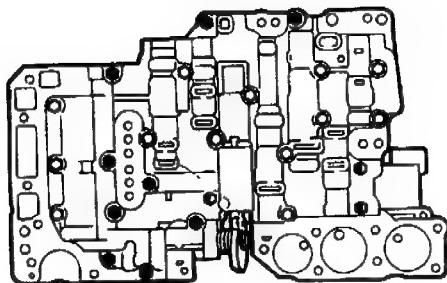

Fig. 3 Valve Body Bolt Location/Size
- (4) Install valve body bolts. Three different length bolts are used. Refer to the Figure 3 for bolt locations. Chart symbols indicate bolt location and length in millimeters.
- (5) Tighten valve body bolts to 6.4 N·m (56 in-lbs) torque.